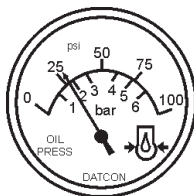

Figure 71. Oil Pressure Gauge
14. The engine oil pressure gauge (Figure 71) will indicate the oil pressure of the engine. Under normal operating conditions the oil pressure is approximately 41 to 71 psi.